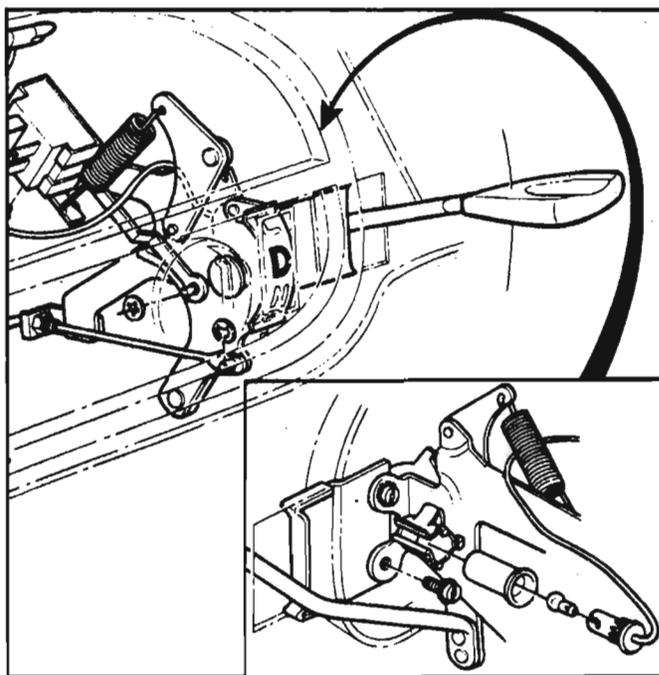

Fig. 8-161—Automatic Transmission Control Installation
2. Automatic Transmission models only (See Figure 8-161): Remove the "C" clip attaching the transmission cable assembly to the transmission control assembly. Remove the nut attaching the cable assembly to the control support arm. Move the selector lever to LOW position.